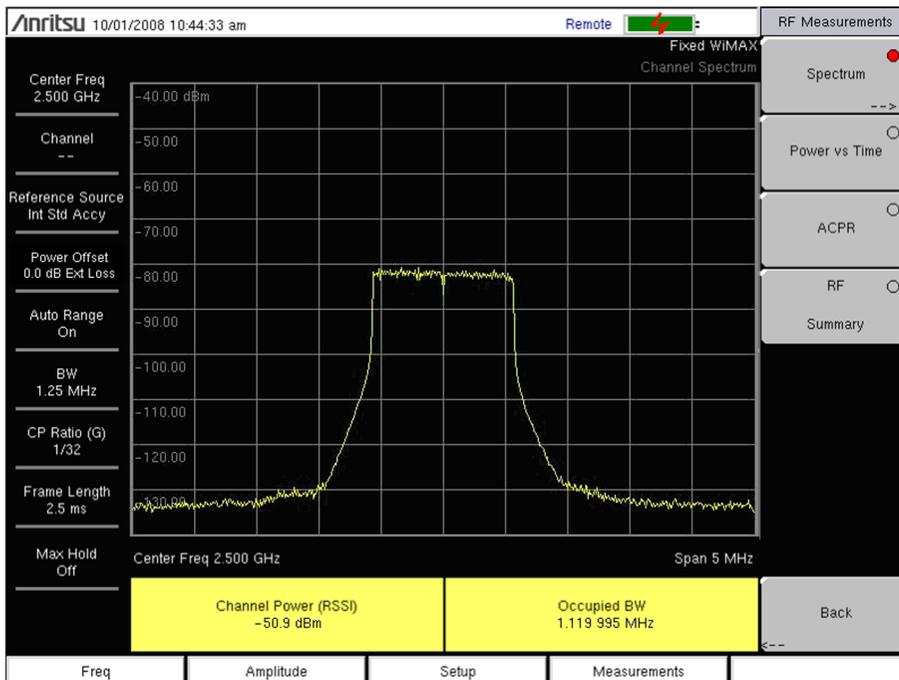

Figure 2-1. Spectrum
4. Press the Spectrum submenu key to activate the spectrum measurement. The sample image in Figure 2-1 may differ from any image on your instrument.